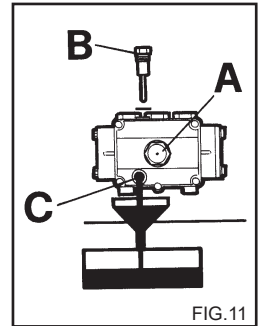

FIG.11
2) Unscrew the cap with the dipstick (fig. 11).